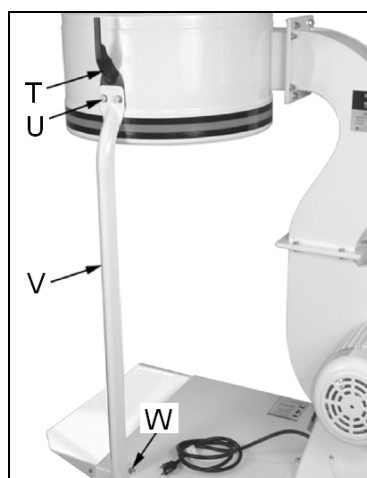

Fig 7
Attach support bracket (V, Fig 7) to the base with 2 hex head screws (W) and washers.